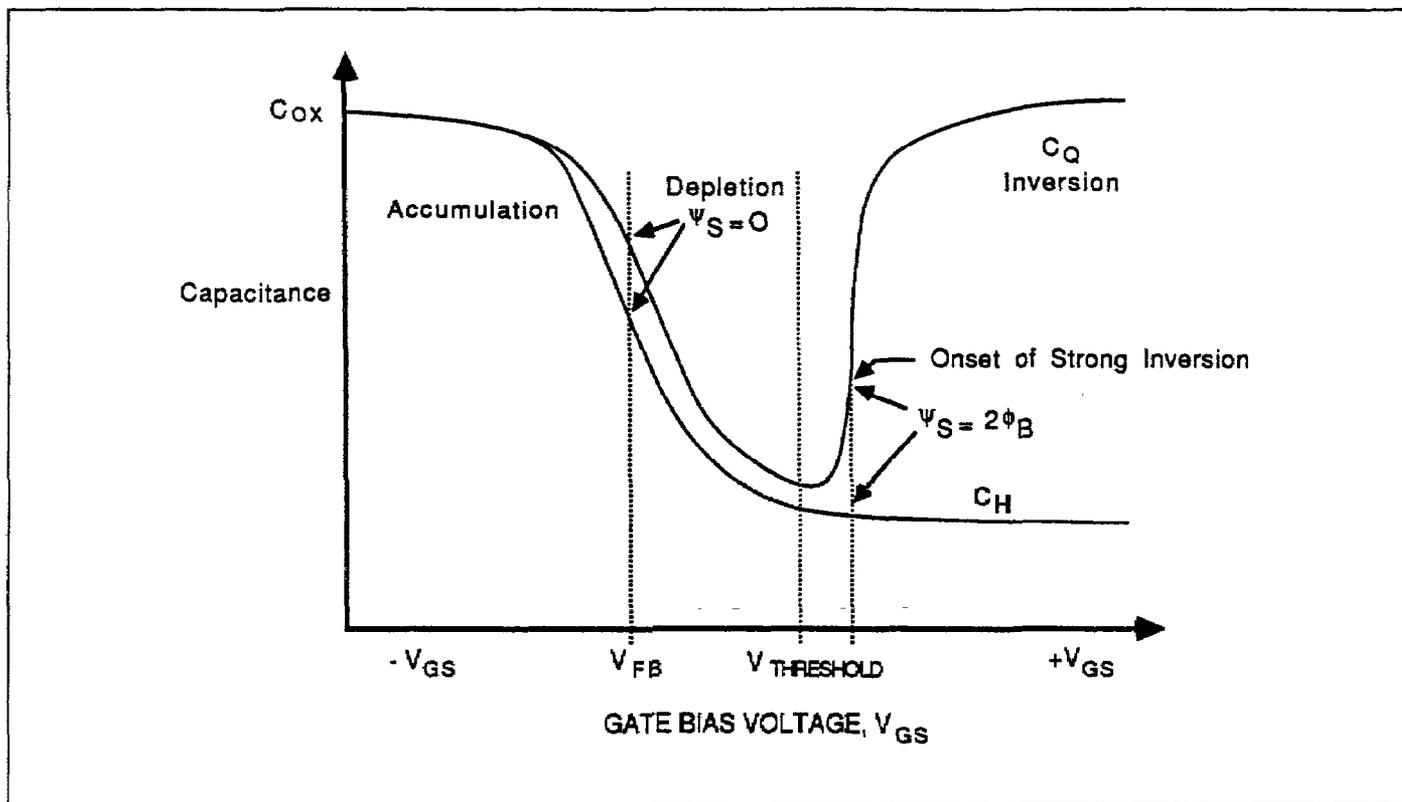

Figure 4-1. CV Characteristics of p-type Material
Figures 4-1 and 4-2 show fundamental CV curves for p-type and n-type materials respectively. Both high-frequency and quasistatic curves are shown in these figures. Note that the high-frequency curves are highly asymmetrical, while the quasistatic curves are almost symmetrical. Accumulation, depletion, and inversion regions are also shown on the curves. The gate biasing polarity and high-frequency curve shape can be used to determine device type, as discussed below.
3. The end of the curve where C_H is greater is the accumulation region, while the opposite end of the curve is the inversion region. The transitional area between these two is the depletion region. These areas are marked on Figures 4-1 and 4-2.